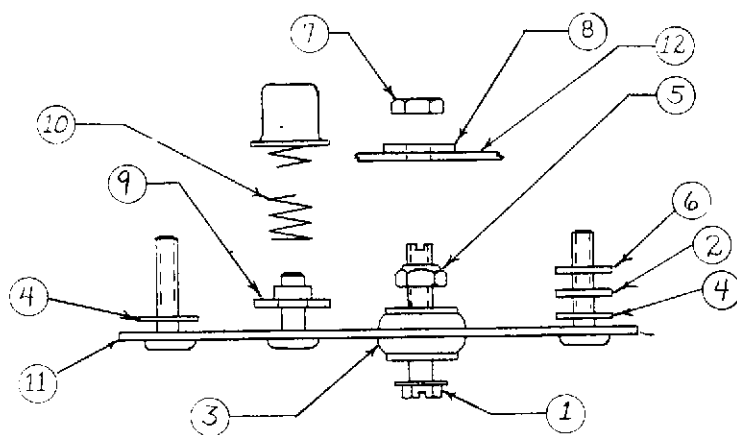

Figure 4-3. 1030N MOTOR MOUNT ADJUSTMENTS
Motor Adjustments—1030N (Figures 4-3 and 4-4)
1. Start adjustments of Motor mounting with one each of Washers (6) (35473-63X) and (4) (35473-46X) on each mounting screw of the Motor Mounting Plate (11). (Washer (2) is shown on drawing as reference only: see Step 5 below).
2. Thread Nut (9) all the way down to Motor Mounting Plate (11).
3. Loosen Nut (7) and turn Screw (1) counterclockwise (using screw-driver slot) to relax tension on Motor Belt. (Figure 4-3)